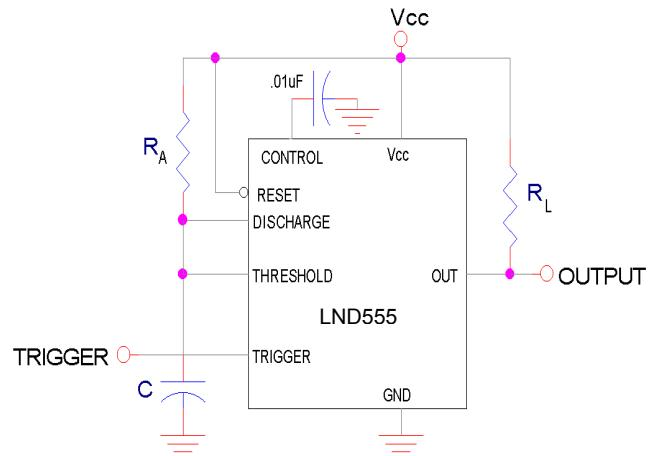

Figure 2 : Circuit for Monostable Operation
4. Values specified are for a device in a monostable circuit similar to Figure.2, with component values as follow: $R_A=2K\Omega$ to $100 K\Omega$, $C=0.1\mu F$.